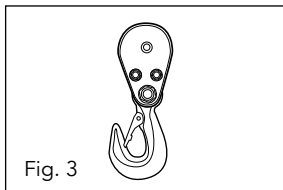

Fig. 3
1. The cable hoist is supplied with a return roller (15) and an additional hook (16). If these parts are used correctly, the cable hoist can lift twice its rated load (Fig. 3).